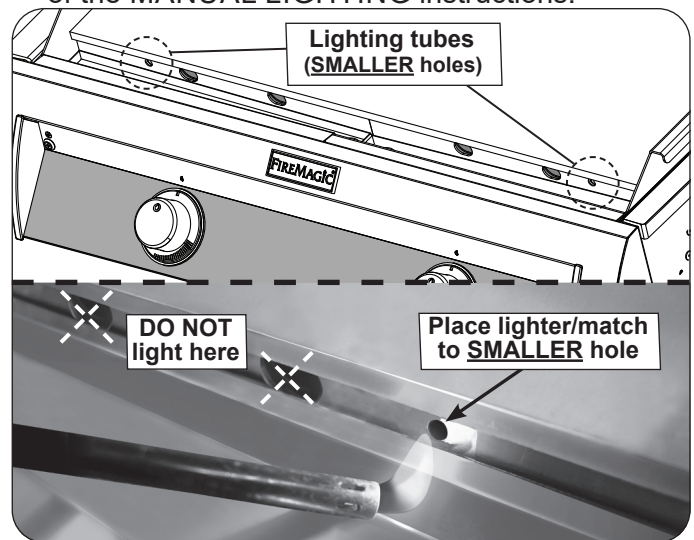

Fig. 35-3 - Manual lighting
2. Hold a burning long-barrel butane lighter or burning long-stem match up to the opening of the lighting tube (**SMALLER hole**) for **5 seconds**. Then depress the appropriate control knob and while pressing turn it counterclockwise to the **HI LIGHT** position. Remove the lighter or match when the burner lights, and release the control knob. See Fig. 35-3.
4. If the burner does not light within five (5) seconds of turning the control knob, **immediately depress the knob and turn the valve to OFF**. **WAIT FIVE (5) MINUTES** before repeating steps 2 through 4 of the **MANUAL LIGHTING** instructions.